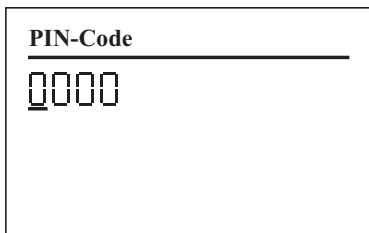

Fig. 6: **PIN-Code** view
1. Open the **PIN-Code** view (fig. 6).